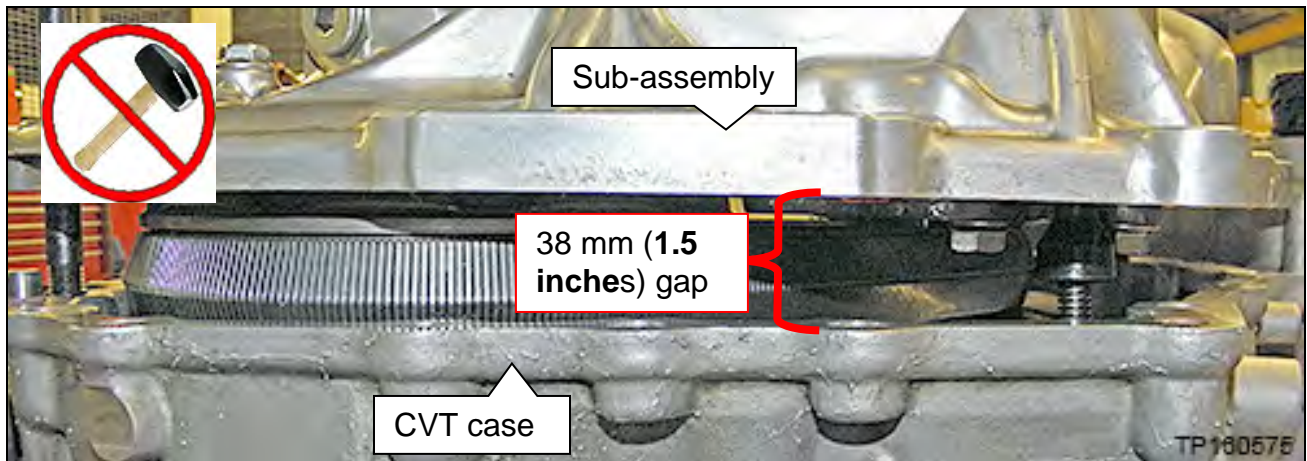

Figure 29F
- b. Lower the sub-assembly until a gap of **38 mm (1.5 inches)** is present to the CVT case (Figure 29F on page 43) and then proceed to step 22.
**IMPORTANT:** Perform step 22 while the sub-assembly has a **38 mm gap (1.5 inches)** to the CVT case (Figure 29F).